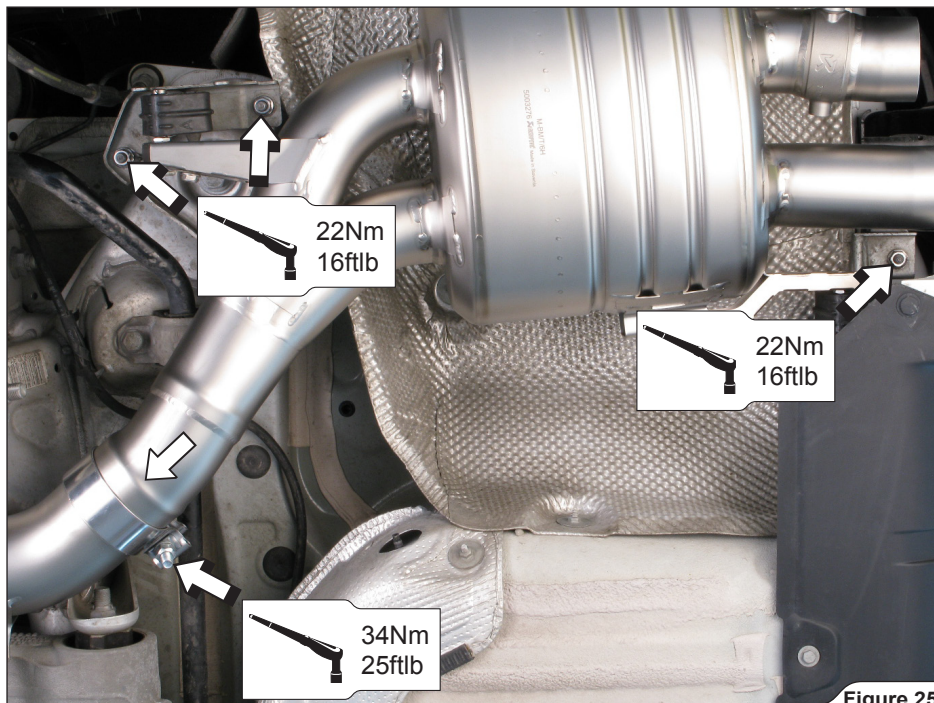

Figure 25
- Slide both mufflers all the way onto the collector's outlets, tighten all stock rubber brackets (using stock nuts) onto the chassis, center the mufflers in respect to the rear bumper's tail pipe outlets and tighten the clamps (**Figure 25, 26**).